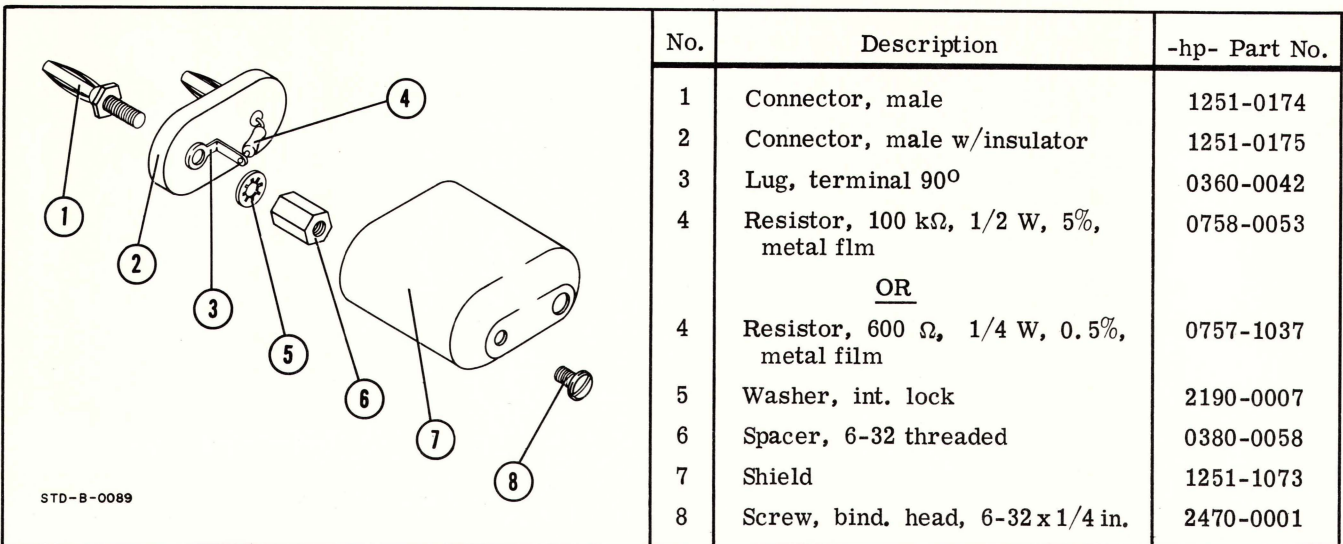

Figure 5-7. Shielded Load Assembly
- a. Connect a shielded 600 Ω load across 333A/334A INPUT terminals. (See Figure 5-7 for details on constructing shielded load). Be sure that shorting bar is connected between chassis ground and circuit ground on INPUT terminals.
- d. Remove 600 Ω load. Connect a shielded 100 k Ω load across INPUT terminals. (See Figure 5-7 for details on constructing shielded load).